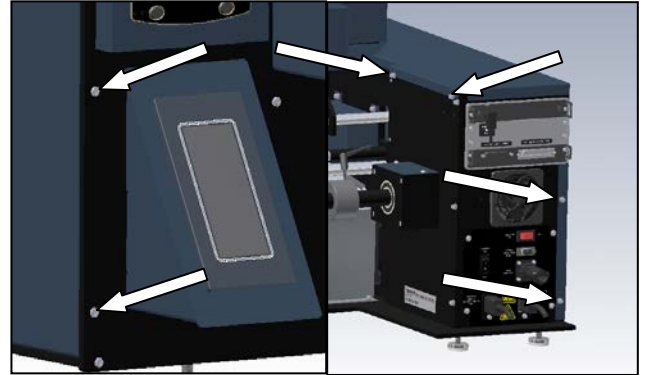

Figure 3-104. Frame Cover Screws
1. Remove the six screws holding the Frame Cover, set screws and Frame Cover aside (Figure 3-104).